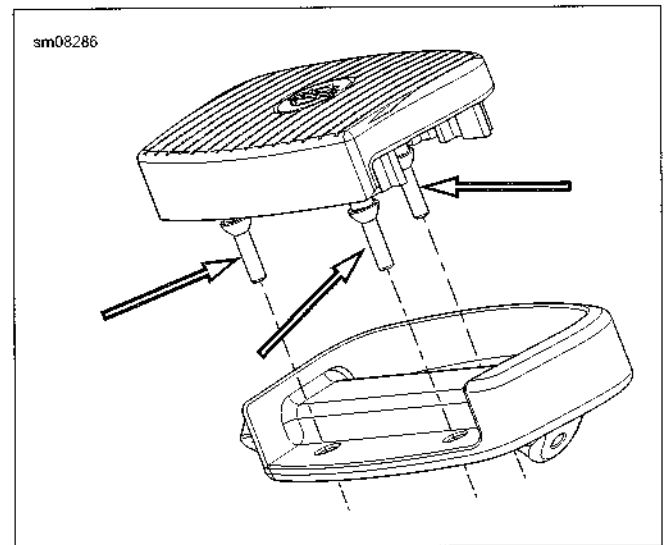

Figure 2-181. Footboard Insert Rubber Beads
1. See Figure 2-181. Apply liquid dish soap to the rubber beads on a **new** insert.